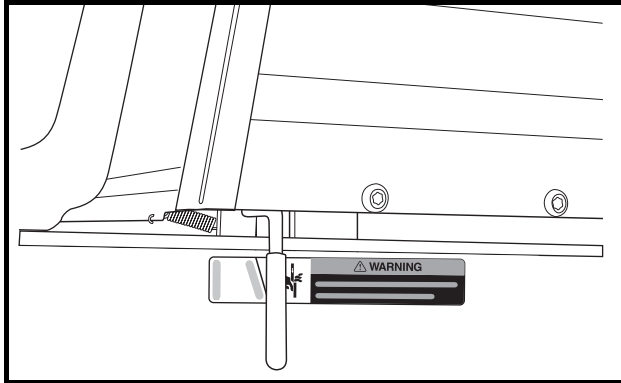
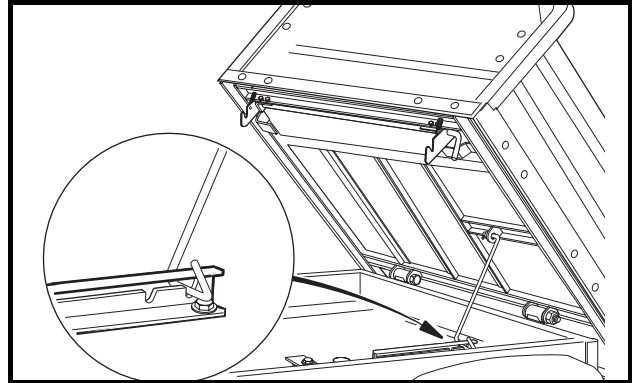

Figure 10 Bed Latch
Figure 11 Prop Rod
The bed latch (Figure 10) has an automatically engaging prop rod and prop rod track (Figure 11) as standard features. To lift the bed, pull the bed latch handle toward the rear of the vehicle and lift the bed. The prop rod will come to rest in one of the notches in the prop rod track. To close the bed, lift the bed so that the prop rod is no longer supported in one of the track notches. Push the prop rod toward the front of the vehicle to free it from the track notch and gently lower the bed. DO NOT drop the bed. **See following DANGER, WARNING, and NOTE.**
**NOTE:** The Carryall 294 and 294 SE vehicles are equipped with an automatically engaging prop rod (Figure 11), unless equipped with the electric bed lift accessory.